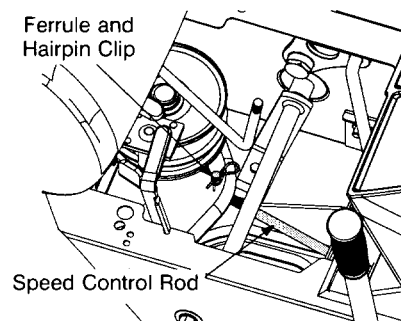

FIGURE 12
- Remove the shift cover panel and locate the speed control rod. See Figure 12.
- Remove the hairpin clip which secures the speed control rod's ferrule to the speed bracket. See Figure 12.